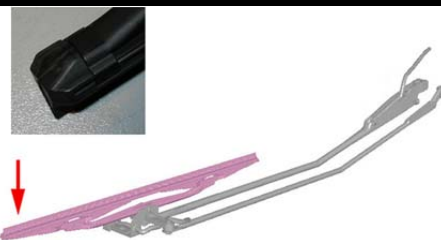

FIGURE 12
15. Install the wiper blade with the bumper opposite to the wiper arm (FIGURE 12).
16. The wiper arms should be positioned in accordance with the diagram on the right (FIGURE 12).